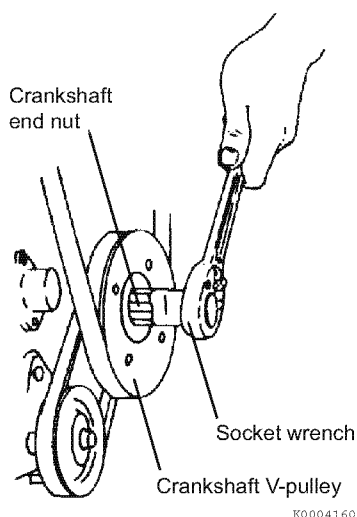

Figure 26
19. If installing a fixed-blade propeller, tighten the nut to specification. Engage the shift lever in forward gear and hold the crankshaft using a socket wrench (**Figure 26**).